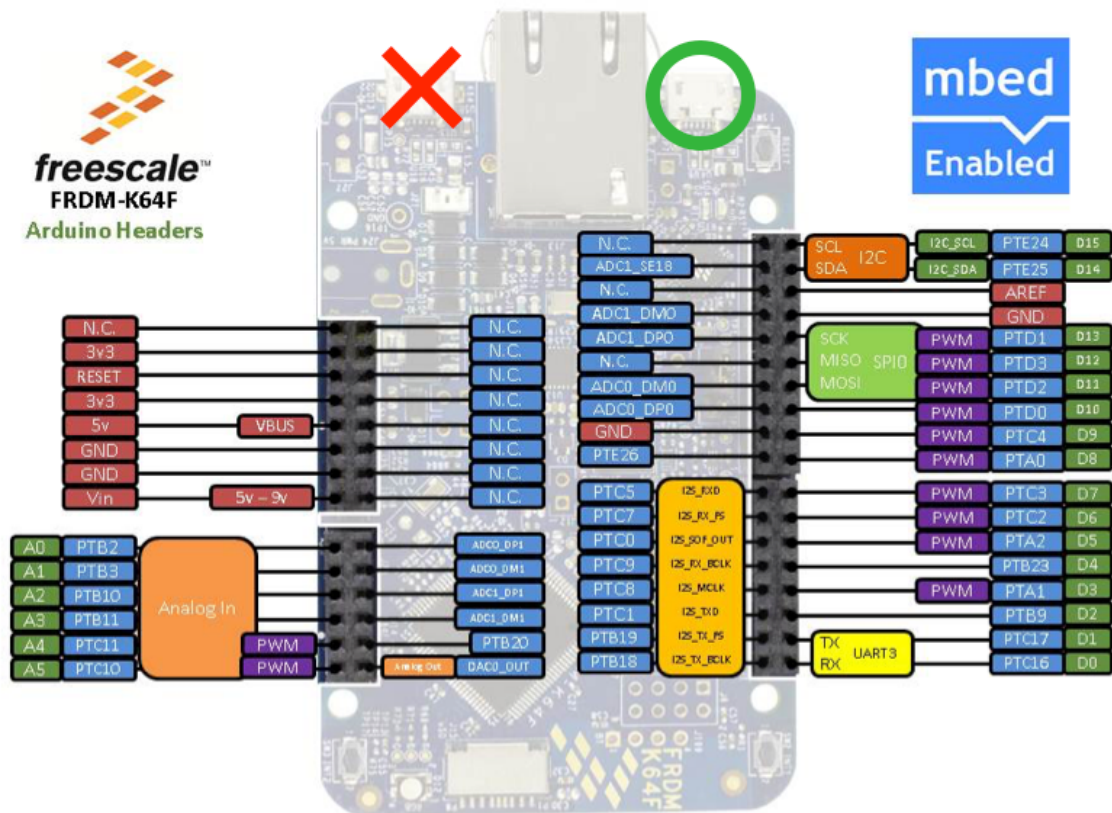

Figure 2: FRDM-K64F micro-controller (the outer rows are compatible with Arduino UNO).
6. Connect the FRDM-K64F controller board to your computer through the right micro-USB port on board as shown in Fig. 2.